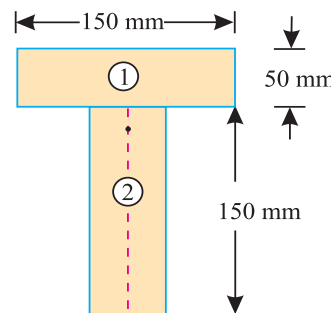

Fig. 7.14.
**Solution.** The given T-section is shown in Fig. 7.14.